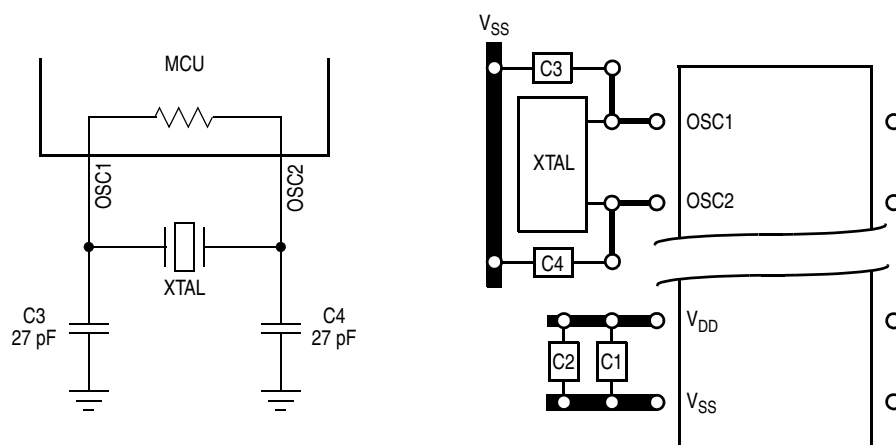
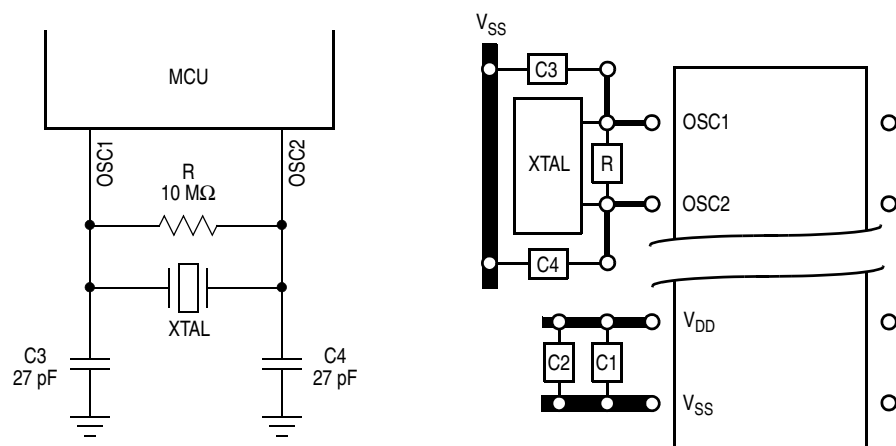

Figure 1-4. Crystal Connections with Oscillator Internal Resistor Mask Option
Figure 1-5. Crystal Connections without Oscillator Internal Resistor Mask Option
1. Standard crystal (See Figure 1-4 and Figure 1-5.)
Figure 1-4 and Figure 1-5 show a typical crystal oscillator circuit for an AT-cut, parallel resonant crystal. Follow the crystal supplier's recommendations, as the crystal parameters determine the external component values required to provide reliable startup and maximum stability. The load capacitance values used in the oscillator circuit design should include all stray layout capacitances.